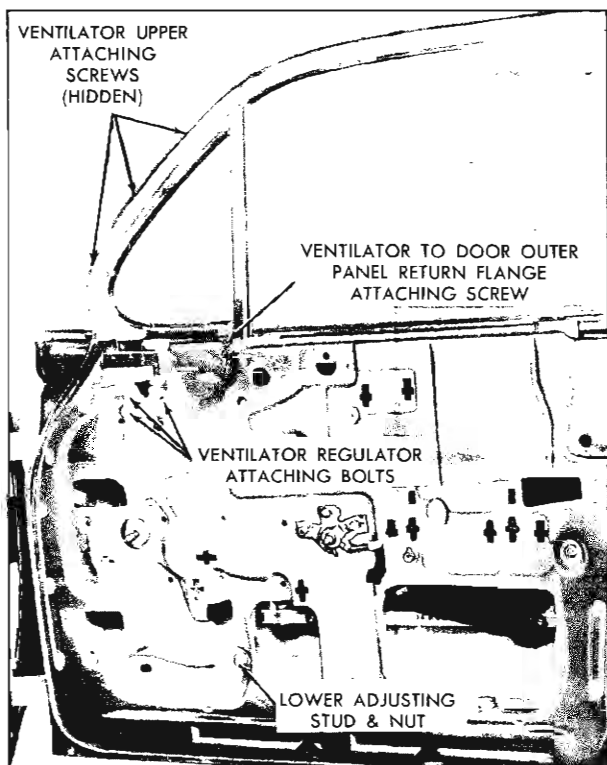

Fig. 3-23 Ventilator Attachments
5. Remove ventilator upper attaching screws along window frame. (Fig. 3-23).
1. To correct a condition where glass is "cocked" in glass run channels, loosen inner panel cam attaching screws, adjust cam up or down as required and tighten screws (see Fig. 3-23).
2. To adjust lower portion of ventilator division channel for proper alignment with door window assembly, lower door window and loosen ventilator adjusting stud nut. Turn adjusting stud in or out or position lower end of channel fore or aft as required; then tighten adjusting stud nut (see Fig. 3-23).
3. To adjust lower portion of window glass run channel in or out for proper alignment with door window, raise door window. From inside door, loosen glass run channel lower attaching nut or screw, adjust channel as required and tighten nut or screw (see Fig. 3-23).
3. Through inner panel access hole loosen nut or screw securing lower end of glass run channel (see Fig. 3-23).
2. Remove ventilator division channel lower adjusting stud and nut. (See Fig. 3-23.)
4. Remove door window lower sash channel cam. (See Fig. 3-23).
6. Remove inner panel cam and window regulator attaching bolts and carefully remove regulator assembly from door (See Fig. 3-23).